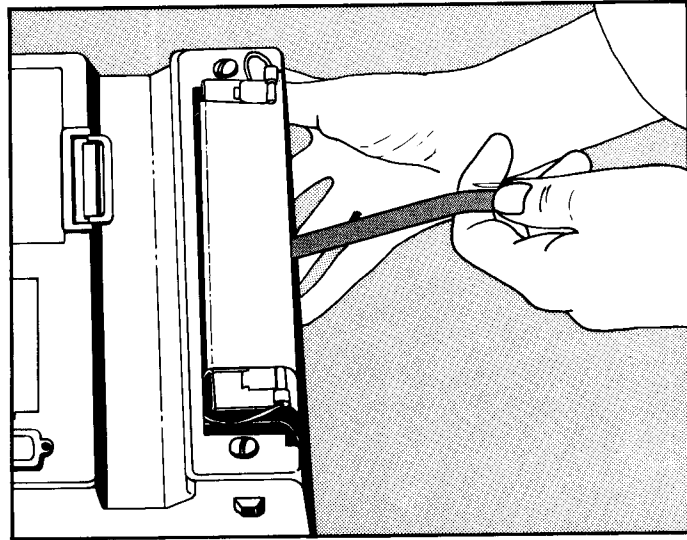

Figure 6-3. Remove Battery
4. Locate the nylon ribbon and use it to pull the battery out of its compartment as shown in Figure 6-3. The battery is held securely in its compartment by friction-lock material strips and a firm, steady pull on the ribbon is required to pull the battery free.